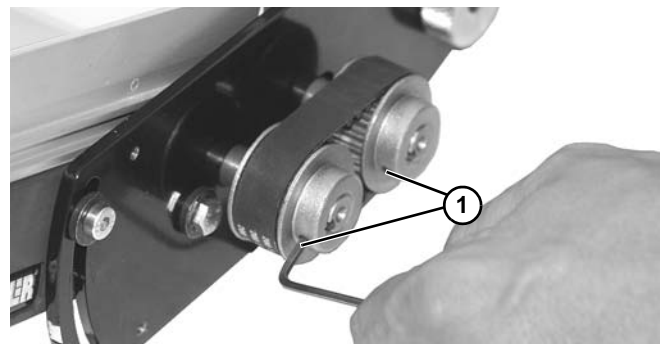

Figure 21
11. Be certain both pulleys are flush with shaft and tighten set screws (Figure 21, item 1) onto pulleys.